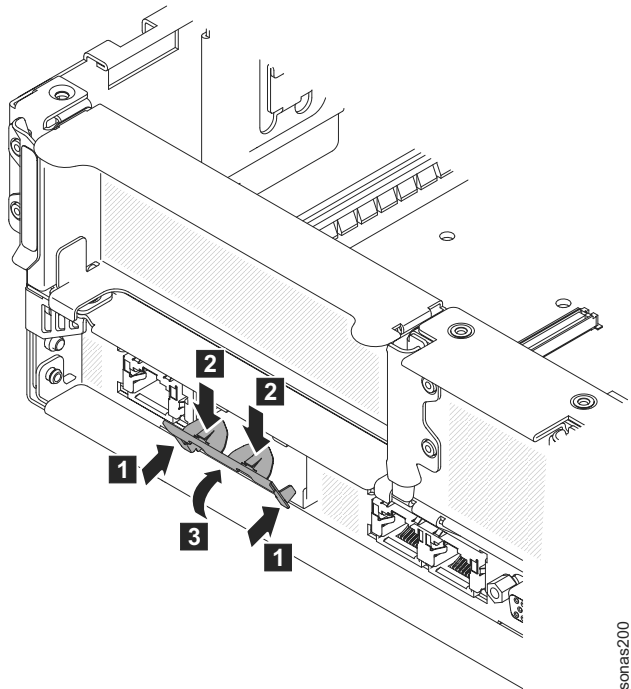

Figure 15. Location of the port openings on the chassis
7. Insert the bottom tabs of the metal clip into the port openings from outside the chassis. See Figure 15 on page 117.